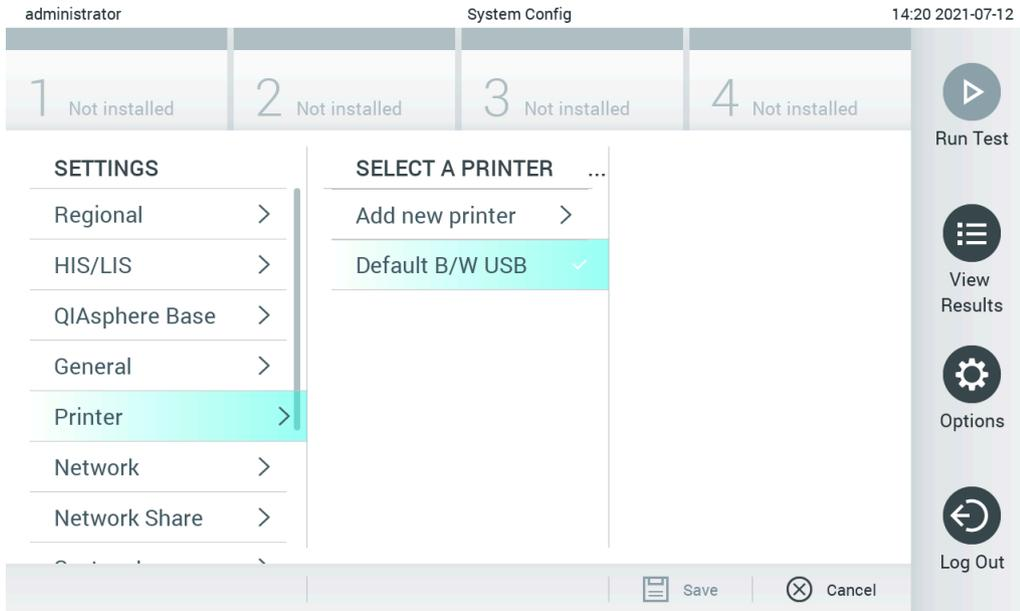

Figure 100. Printer installation with default driver
2. Select the default printer called Default B/W USB (Figure 100)